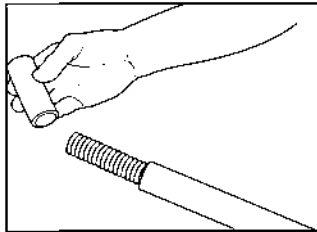

Figure: 4-51
- Using a twisting motion, remove the black sleeve from the pipe. Figure: 4-51. It may be necessary to cut sleeve longitudinally and peel off for larger sizes. **Inspect stainless pipe for scoring from the tubing cutter.**